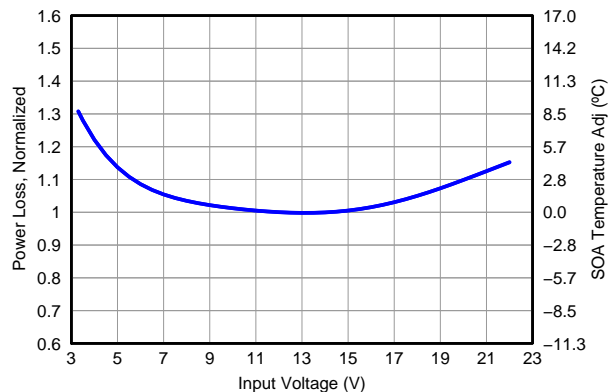

Figure 13. Normalized Power Loss vs Input Voltage
- Normalized Power Loss for input voltage  $\approx 1.05$  (Figure 13)
- SOA adjustment for input voltage  $\approx 1.4^\circ C$  (Figure 13)